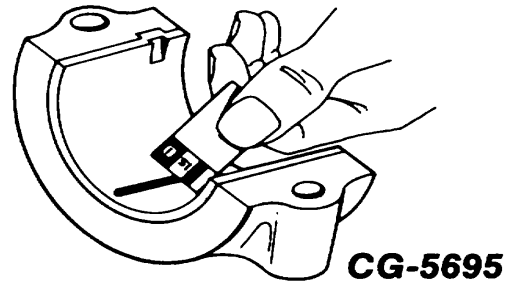

Figure 29. - Reading Bearing Clearance with Plastigage
- d. Remove the bearing cap. When virgin lead is used, measure the crushed thickness with a micrometer and record the results. When Plastigage is used, the flattened plastic material will be found adhering to either the bearing or the crankshaft. DO NOT remove the plastigage. Determine bearing clearance by comparing the width of the flattened plastic with the graduations on the envelope as shown in Fig. 29.